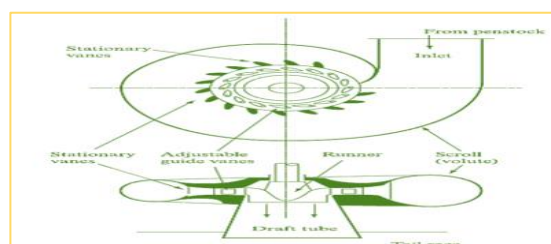

Figure 7: Schematic diagram of a Francis turbine
- Note the Speed of the turbine, manometer readings (h_1 & h_2) shown in figure 7.